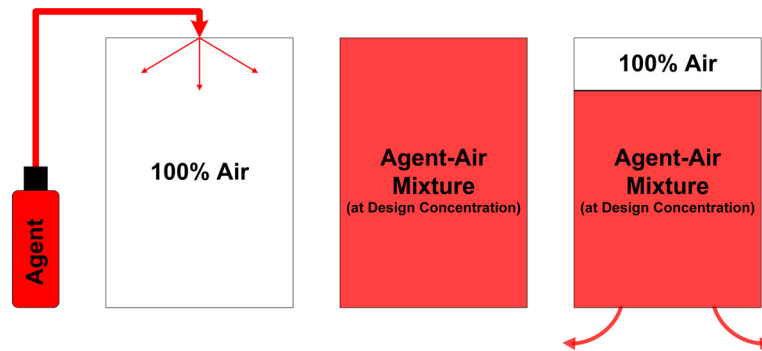

Figure 3-1. Hold Time Model
**Note:** Figure 3-1 is based on the NFPA model for descending interface where 100% of the initial concentration leaks out the bottom of the enclosure which replaces the lost volume with 100% above the interface.